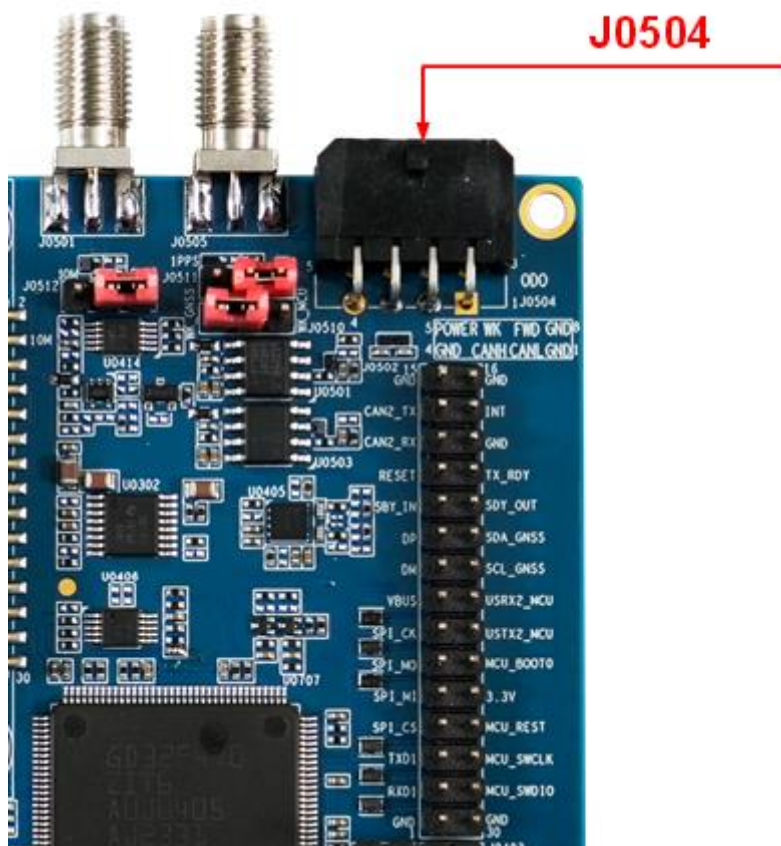
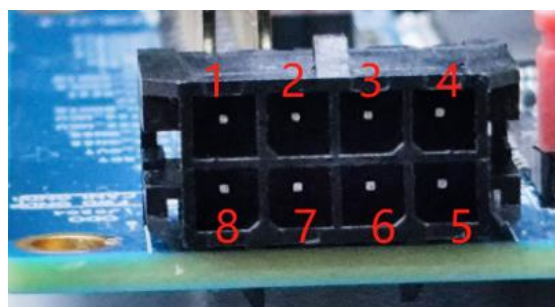

Figure 18: Connecting to EVB CAN Interface
Figure 19: J0504 Pin Assignment
Step 4: Connect the J0504 of the EVB with the corresponding interface of the vehicle, as shown in Figure 18: Connecting to EVB CAN Interface. Regarding J0504 pin assignment, see Figure 19: J0504 Pin Assignment and Table 5: J0504 Pin Description for details.